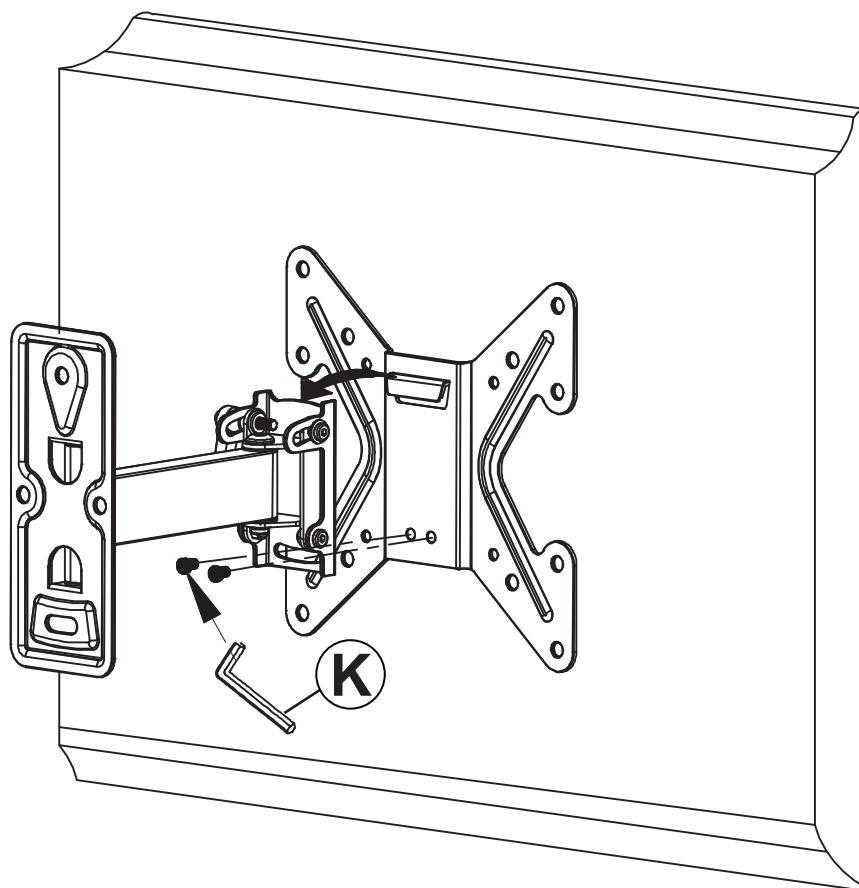

Fig. 4
2. Hook the tab on the top of the TV Plate (2) over the top on the front of the Wall Plate (1) arm as shown in Fig. 4.
3. Attach and secure the TV Plate (2) to the Wall Plate (1) with the Allen wrench (K) using the two M6x12mm screws previously removed in Step 1. Turn the screws clockwise to securely tighten.